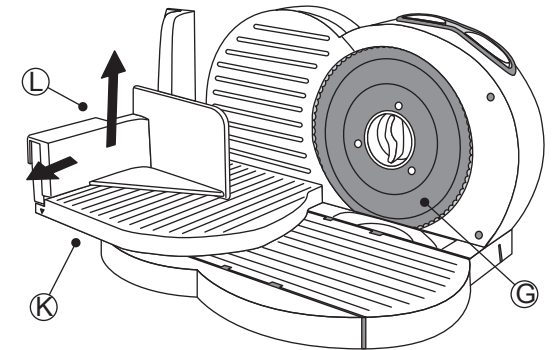

fig. 11
2. Ensure the unit is hygienically clean. Before assembling the Food Slicer, and with the unit unplugged, thoroughly wipe off all parts with a clean cloth using warm soapy water and a mild anti-bacterial detergent. In addition, the following parts should be removed and cleaned in hot soapy water: Protective Guide (L), Blade Assembly (G), and Food Tray (K). Clean the Food Slicer after every use.
- See fig. 11.